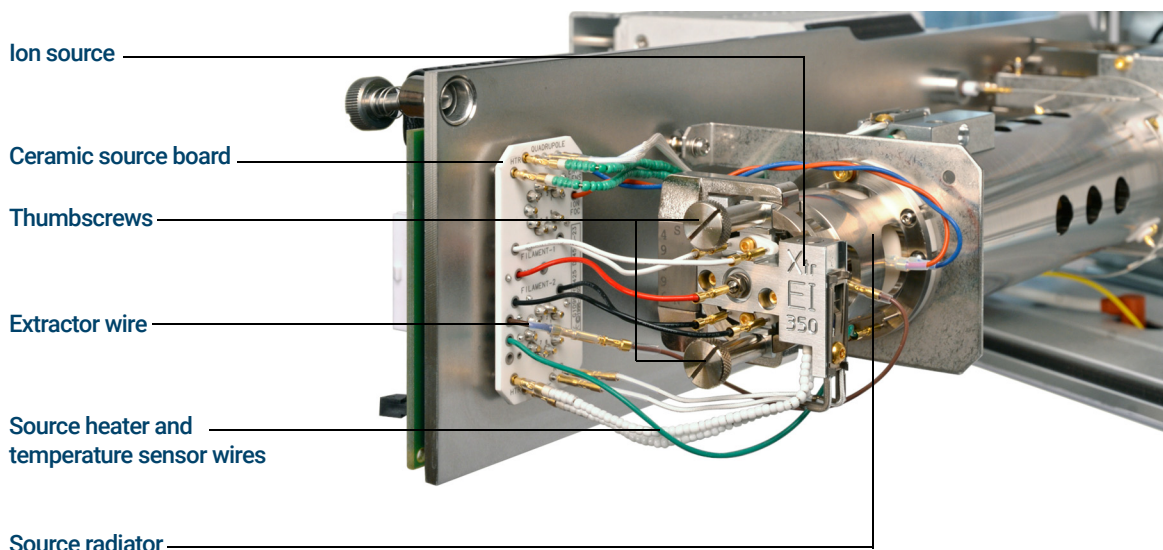

Figure 70. Installing the EI source
- 1 Slide the ion source into the source radiator. (See **Figure 70.**)
- 2 Insert and hand tighten the source thumbscrews. Do not overtighten the thumbscrews. (See **Figure 70.**)